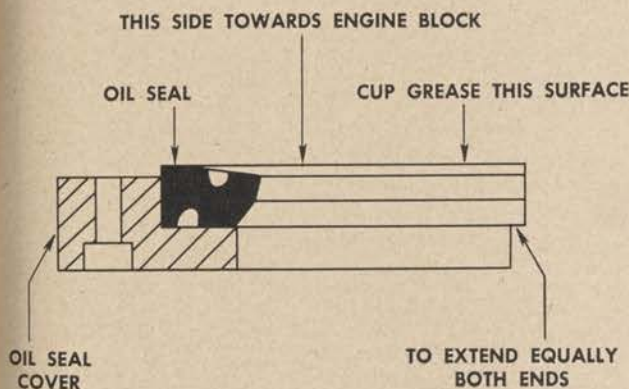

Figure 290. Replacing rear oil seal.
(3) Unscrew the upper three screws and remove from the flange. Then lift the upper half of the oil seal cover and oil seal from in back of the flange.
(4) Unscrew the lower three screws and remove the lower half of the oil seal cover and oil seal.
(5) Examine the gasket between the pan and the upper part of the engine to see that it is flush with the finished surface against which the oil seal rests. If not flush, cut the gasket flush with the finished surface on the engine block. The gasket must not be below the finished surface against which the oil seal rests. If below the surface, fill the space flush with gasket compound.
(6) Remove the oil seals from the covers, making sure that all surfaces are cleaned carefully.
(7) Replace with new oil seals. (See fig. 290.) Be sure to install the seals correctly and to have the seal extend equally beyond the cover.